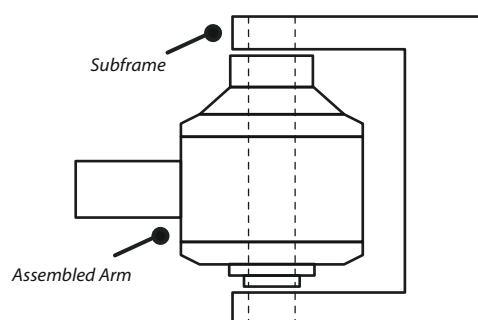

Figure 2 - Fitting the arm
4. Place the Stainless Steel Washer onto the groove at the end of the Stainless Steel Sleeve so its sits onto it, and refit the arm into the void of the subframe where the arm was originally fitted, ensuring to take note of the positioning shown in Figure 2. Ensure to tension all hardware to manufacturers recommended torque settings.